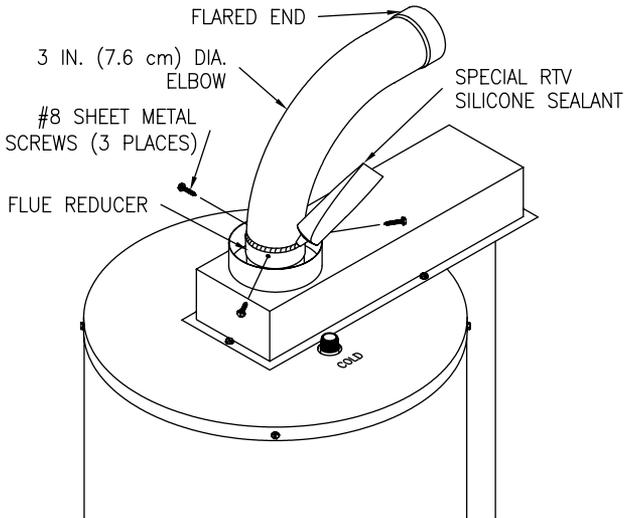

Figure 5
6. Insert the straight end of the three (3) inch (7.6 cm) diameter elbow into the flue reducer until firmly seated and oriented in the correct direction. With a 1/8 inch (3.0 mm) diameter drill bit (not supplied), drill three (3) holes, 120° apart, through the flue reducer into the three (3) inch (7.6 cm) diameter elbow. Fasten with three (3) #8 sheet metal screws (supplied). Using the supplied special RTV silicone sealant, apply a sufficient amount to seal the joint (See Figure 5).